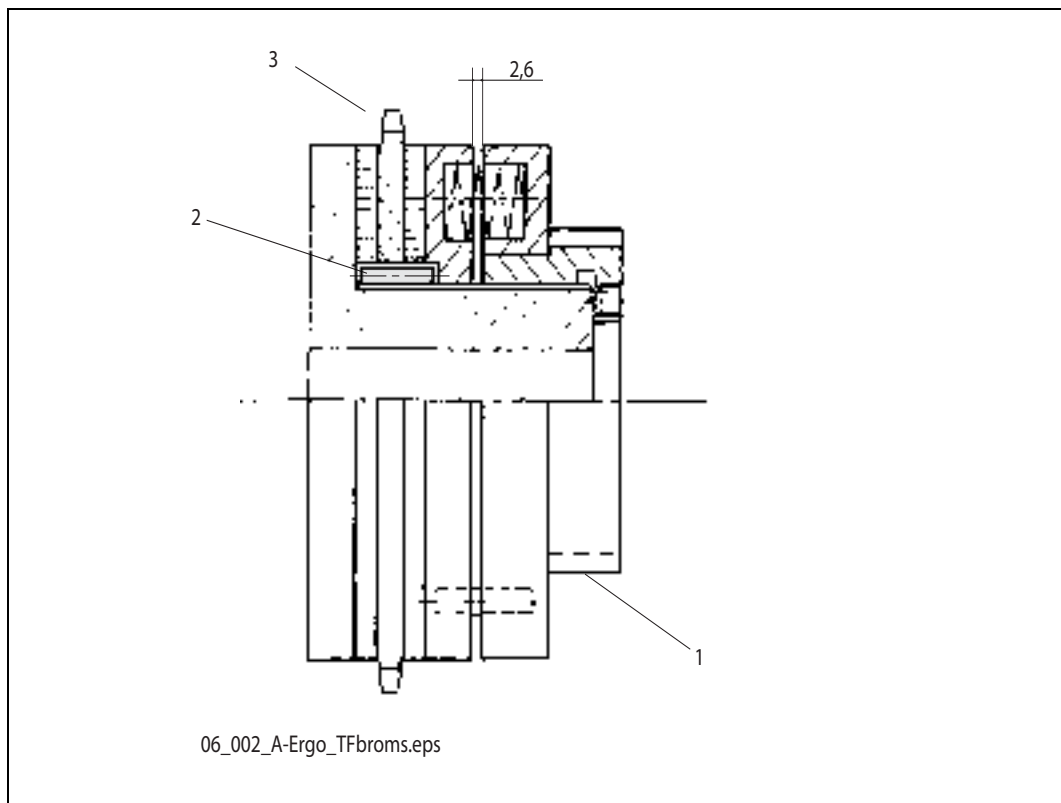

Figure 6.35 Overload clutch
The spring tension is not adjustable since the tensioning nut, pos. 1, should be fully screwed in and locked with stop screws. The bearing, pos. 2, and sprocket, pos. 3, should be lightly lubricated with cold-resistant grease (-35°C), see figure 6.35.